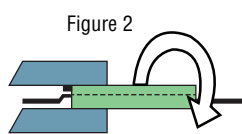

Figure 2
- b) Do not apply more than 1.5 cN-m twist torque to the breaker body (refer to Figure 2)